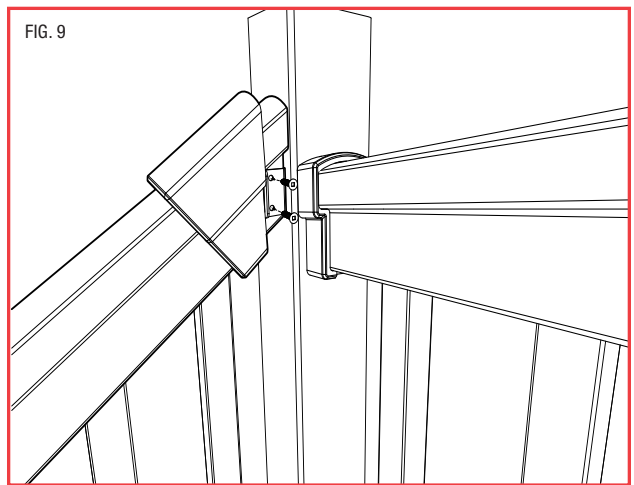

FIG. 9
14. Secure top rail in place by installing two 1" screws on both sides of the metal brackets. (Fig. 9) Snap bracket covers over the metal brackets.